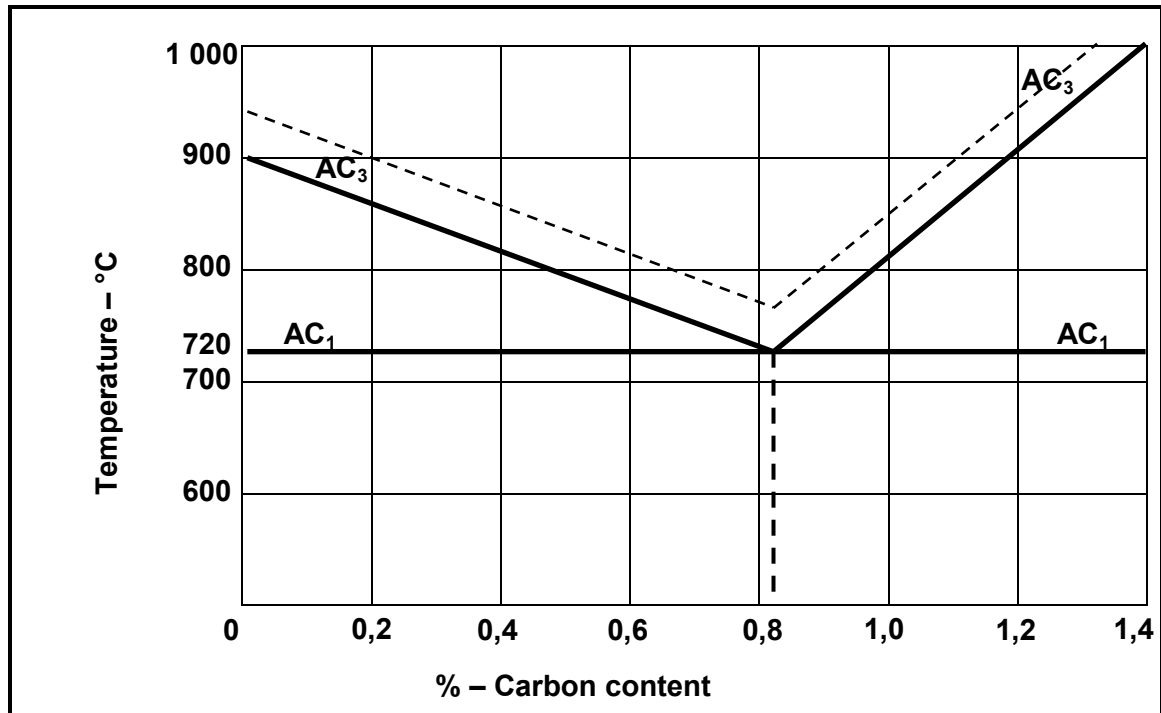

FIGURE 1.1
- D heating (1)
- 1.6 Steel can be hardened and annealed at a temperature between 885 °C and 925 °C. What percentage carbon content will allow for this hardening and annealing? Use the iron carbon equilibrium diagram in FIGURE 1.1 below.